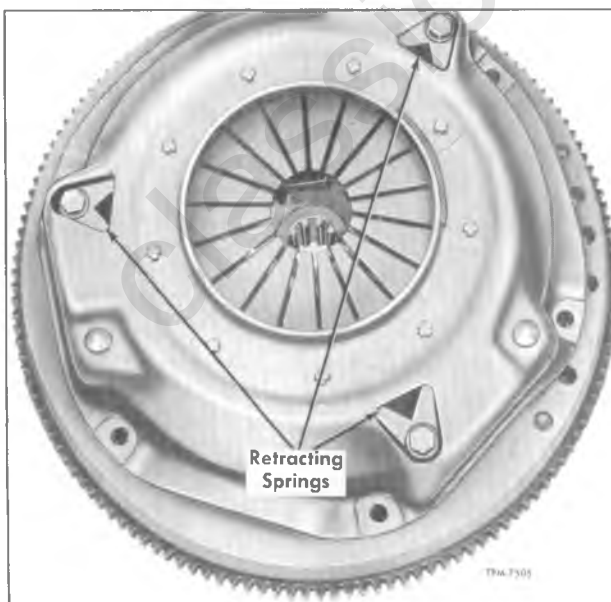

Figure 5—Pressure Plate Retracting Springs
A rattle in the clutch assembly at idle speeds with the clutch disengaged may be caused by insufficient tension on the three retracting springs (fig. 5). This noise can be eliminated by replacing the retracting springs as follows:
2. Check clutch retracting springs (fig. 5) for proper retention of pressure plate to diaphragm spring. Replace retracting springs, if necessary, as described previously.